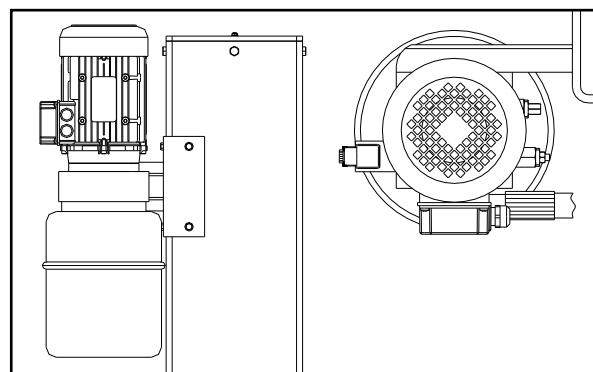

Fig. 33
- ◆ Install the pump on the hock board according to Fig. 33 and fix it on the bottom of main column.